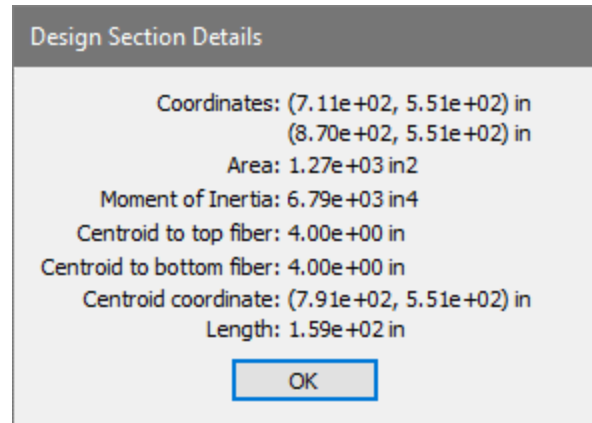

Figure 8-82
- In this window we can see the section geometry. As well as the physical section with tendons and base rebar and the idealized (designed) section with calculated reinforcement. We can see this the section geometry/properties in more detail if we click on the *Details* button in the *Geometry* section of this window as shown in **FIGURE 8-82**.